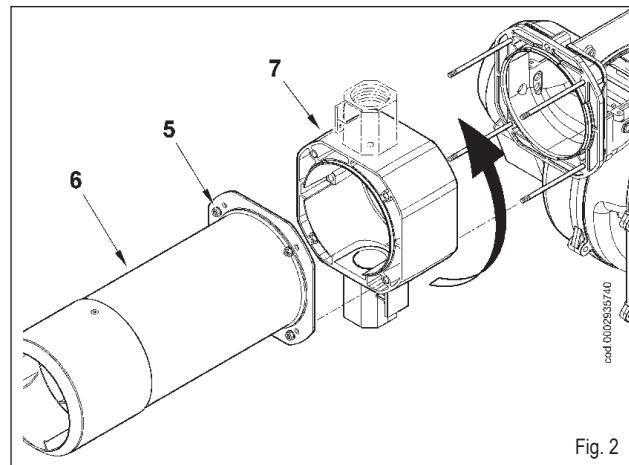

Fig. 2
- Loosen the screws (2) to remove the cable clamp plate (3), feed the two 7 and 4 pole pins through the hole as shown in figure 2. Connect the power supply cables (4) to the contactor, fasten the grounding cable (5) and tighten the relative cable gland. In the case of a single-phase burner, only the cables L (phase) and N (neutral) corresponding to positions L1 and L3 as shown in figure 2 are connected to the contactor.
- 2) Make sure that mobile plate 3 is held in place by screw 4. This will permit the mixer unit to be reassembled in the position adjusted previously after completion of maintenance work. Slacken screw 5, which anchors the unit's forward movement rod to the mobile plate (figure 2).
- 3) Now remove the 4 nuts (5) in figure 2, dismantle the flame tube(6) and, after pulling off the lung (7) from its stud bolts, put it back in position with the threaded connection for anchoring the gas train turned upward.
- 4) To complete the operation, anchor the flame tube (6) and the lung (7) in place with the 4 nuts (5), then put the mixing unit back in its housing.